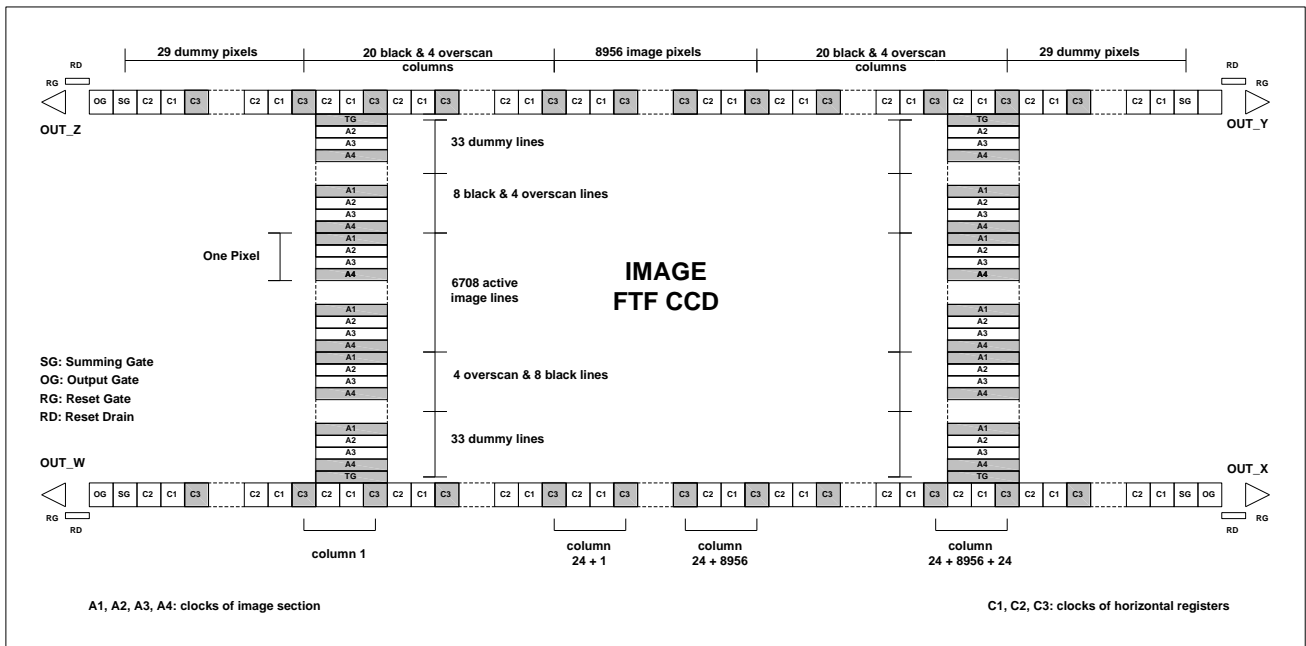

Figure 2: Detailed internal device structure
Vertical binning is achieved by adding lines in the registers. Each register contains a summing gate (SG) at both ends that can be used for horizontal binning (see figure 2). The charge-to-voltage conversion is performed by a three-stage source follower amplifier (4 in total). The charge-to-voltage conversion node is reset to reset-drain voltage (RD) by pulsing the reset gate (RG). The amplifier power supply is SFD, the ground terminal is SFS. VNS and VPS are the bias voltages for the n-type substrate and for the CCD p-well, respectively.